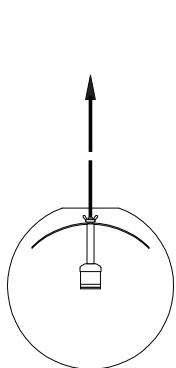

Fig. 3
7. Once the parts are inside the shade, place shade bracket (K) back onto tube (L). Slide wing nut (J) back down the cord and thread it onto tube (L) to secure the position of bracket (K). Carefully lift the fixture by the cord as shown in Fig. 3.
8. Slide hood (I) back down the electrical cord until it rests on glass shade (N).
9. Remove mounting plate (B) from canopy (D) by un-threading screws (E). Set screws (E) aside.
10. Affix mounting plate (B) to ceiling outlet box with mounting screws (C), provided.
12. From inside canopy (D), loosen screw (G) on wire clamp (F). Guide cord through hole in canopy (D) and slide it to the position of desired drop. Pass cord through clamp (F) and tighten screw (G) as shown in Illustration (A). If necessary, cut excess cord, leaving 5 or 6 inches of length for wire connections.
13. Lift canopy (D) to ceiling outlet box; make proper electrical connections noted in steps 14 - 16. A LICENSED ELECTRICIAN IS RECOMMENDED.
14. Attach ground wire from fixture (green or copper in color) to ground wire from outlet box. Fasten wires together with wire nut (A) and tightly wrap connection with electrical tape.
15. Attach hot wire from fixture (black in color or smooth side of wire) to hot wire from outlet box. Fasten wires together with wire nut (A) and tightly wrap connection with electrical tape.
16. Attach neutral wire from fixture (white in color or ribbed side of wire) to neutral wire from outlet box. Fasten wires together with wire nut (A) and tightly wrap connection with electrical tape. Gently push wire connections back into the ceiling outlet box.
17. Place canopy (D) flush against ceiling. Use canopy screws (E) to attach the canopy to the mounting plate.